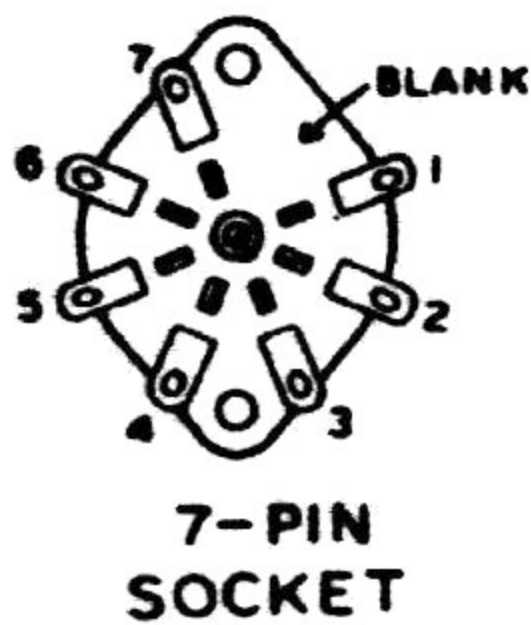

Figure 1
- ( ) Mount the two 7-pin and one 9-pin wafer type tube sockets on the chassis with 3-48 screws and nuts. See Figures 1 and 2 for identification. Note the position of the blank spaces in Pictorial 1 on Page 6. Observe that the sockets mount below the chassis.